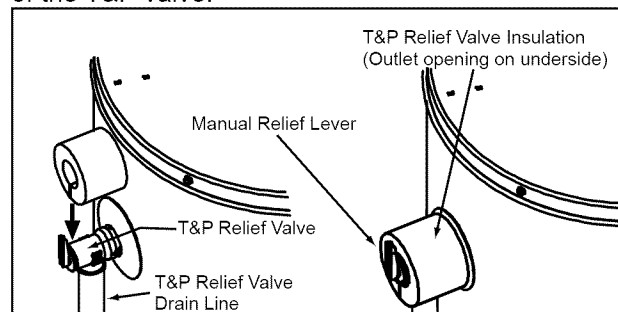

Figure 41
Locate the temperature and pressure relief valve on the water heater (also known as a T&P relief valve). See Figure 41.
2. Spread the slit open and fit the insulation over the T&P relief valve. See Figure 41. Apply gentle pressure to the insulation to ensure that it is fully seated on the T&P Relief Valve. Once seated, secure the insulation with duct tape, electrical tape, or equivalent.
- IMPORTANT:** The insulation and tape must not block the discharge opening or hinder access to the manual relief lever (Figure 41). Ensure a discharge pipe is installed into the T&P valve discharge opening per the instructions in this manual.